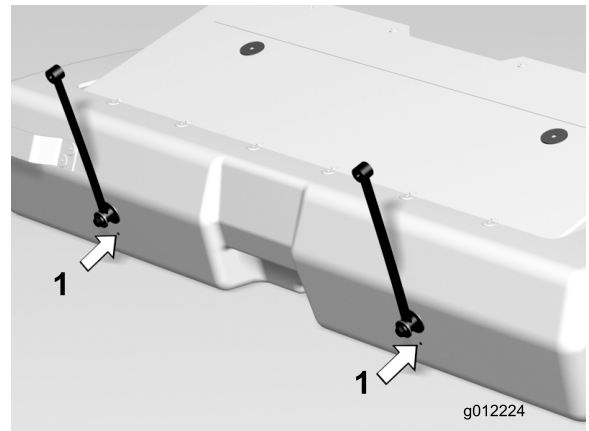

Figure 13
**Note:** If the straps become stretched and do not hold top of basket open, use the guide holes (Figure 13) in the rear of the basket to locate and drill new mounting holes for the strap bolts.